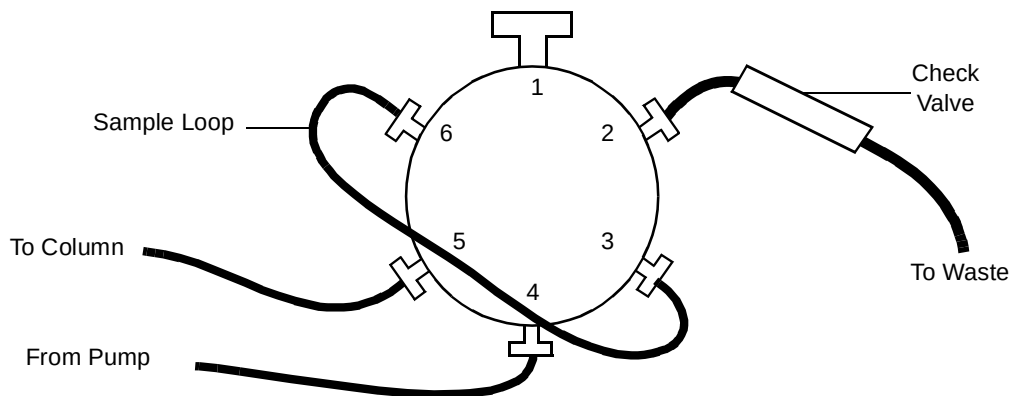

Figure 2-21 Installing Check Valves
8. Install a sample loop on each valve (ports 3 and 6; Figure 2-21).